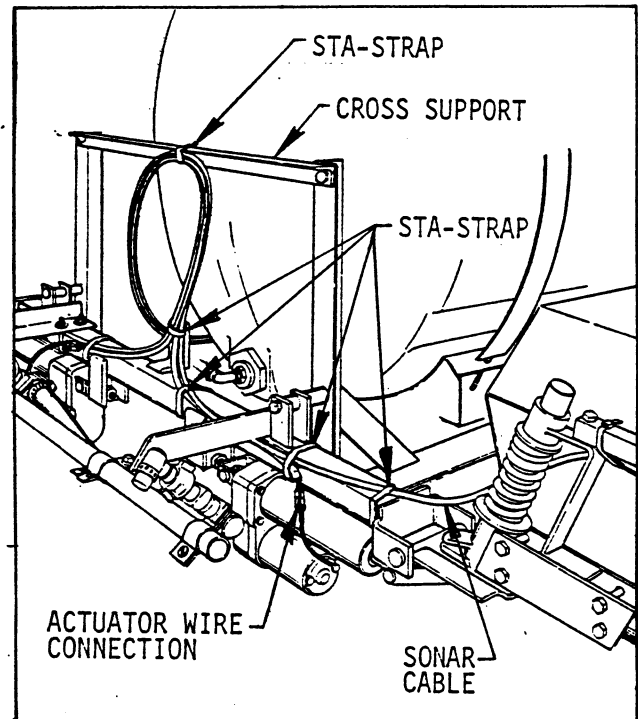

FIG. 2
■ Disassemble the Struts and use the clevis pins and hairpin cotters to install the Electric Actuators as shown in FIG. 2.
■ Connect the Actuator Wire Assemblies to the Actuator plugs as shown in FIG. 2.
■ Route the Sonar Cables and the Actuator Wire Assemblies along the top and toward the center of the Boom Frame. Use Sta-Straps to secure both the Sonar Cables and the Actuator Wiring Assemblies at several points along the top of the Boom Frame and to the top Cross Support as shown in FIG. 2.